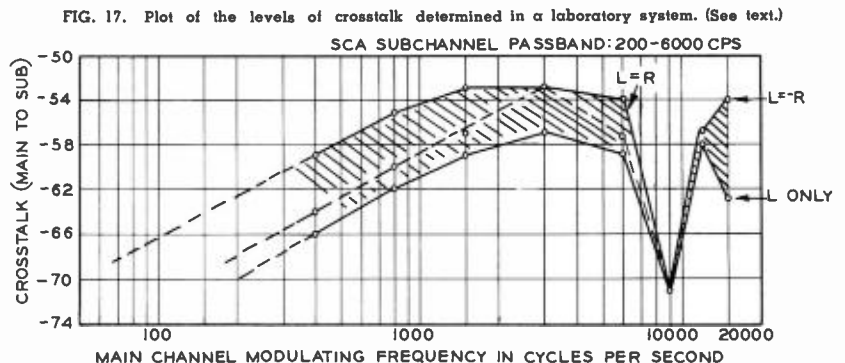

FIG. 17. Plot of the levels of crosstalk determined in a laboratory system. (See text.)
$L$  and  $R$ -channel phasing was varied from 0-360 degrees and relative amplitudes between 0 and 1, thus encompassing any possible steady-state condition. Figure 17 shows the gamut of the readings taken. The lowest readings were obtained (1) with  $L$  or  $R$ -only signals below 9 kc, and (2) above 9 kc with equal in-phase signals to  $L$  and  $R$  inputs. S/N on the SCA channel was -73 db relative to +7.5 kc deviation, exclusive of 60 cps hum.